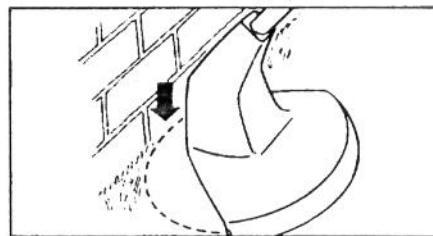

Figure 13
7. DO NOT FORCE THE UNIT. Allow the very *tip* of the nylon line to do the cutting (especially along walls). Cutting with more than the tip will reduce cutting efficiency and overload the motor (Fig. 13).